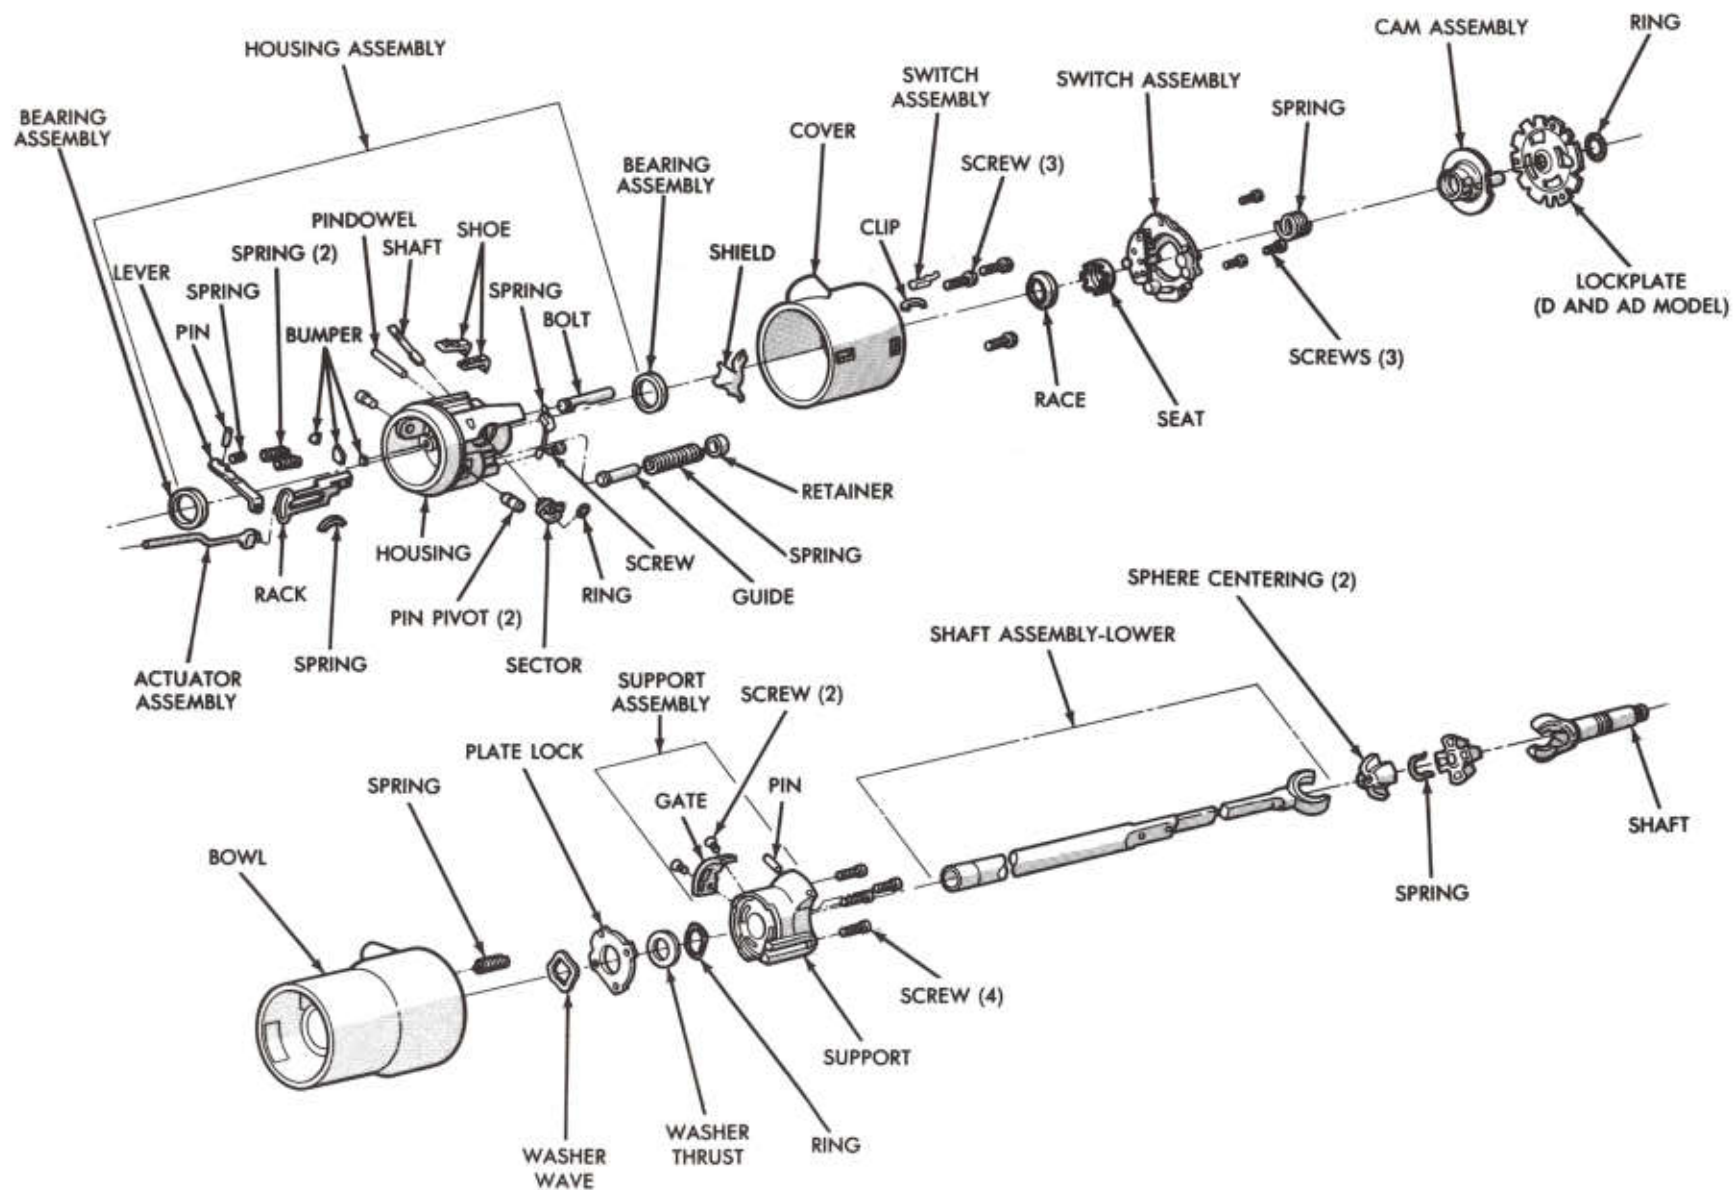
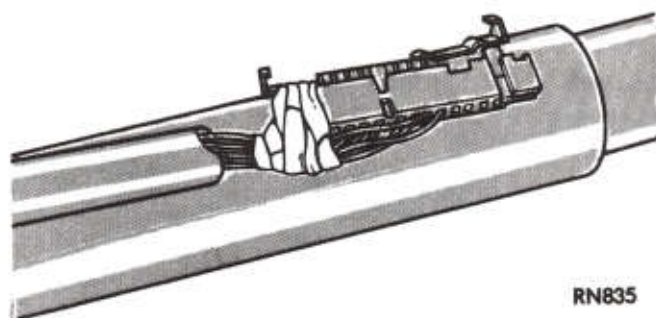

Fig. 1—Tilt-Wheel Column Upper End
Fig. 5—Tape Connector and Wires
Disassembly (Fig. 1)
- (8) Remove three turn signal switch attaching screws, place shift bowl in low (1) position. Wrap a piece of tape around the connector and wires to prevent snagging when removing the switch (Fig. 5). Remove switch and wiring (Fig. 1).
- (9) The lock cylinder may be removed in any posi-
Bearing Housing Disassembly (Fig. 1)